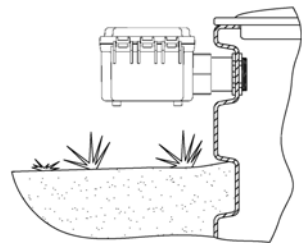

Figure 2: Example installation
5. String the pump plug, float plug, and alarm float through the 2” conduit. Insert the circular rubber seal with cords positioned in the openings of the seal and washers. If you only need one float, use the included plugs to seal the unused cord position. Strip the high water alarm float as shown in figure 2. Connect it to the terminal block.